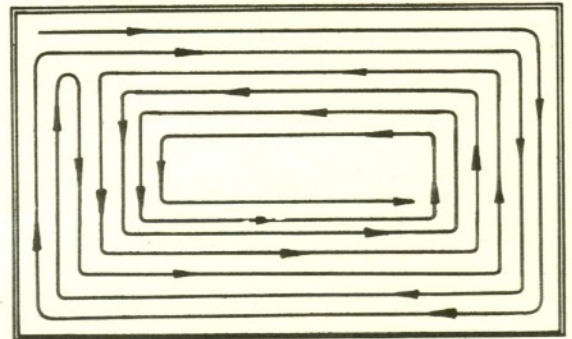

Figure 34. Mowing Pattern.
5. Turn to the right when beginning to mow large open areas to discharge clippings away from borders such as sidewalks, fences, driveways, etc. After making two or three passes this way, mow in the opposite direction turning to the left to finish. (See Fig. 34).